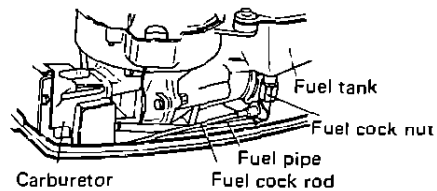

Fig. 20 Fuel line in the engine
(1) Fuel system
- Check the fuel filter in the fuel cock nut for dirt. (Fig. 20)